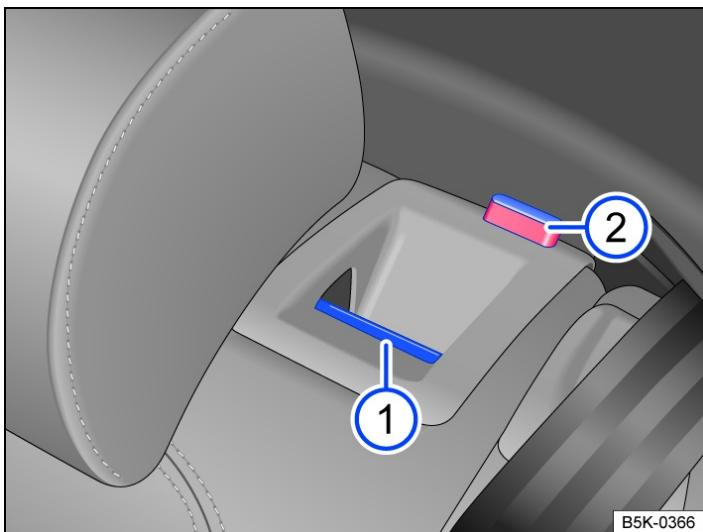

Fig. 1 In the rear seat backrest: release button.
- Pull the release button → Fig. 1 1 forwards and fold the rear seat backrest forwards at the same time.
The respective section of the rear seat backrest is unlocked when you can see the red marking → Fig. 1 2.
- The red marking on the release button must no longer be visible → Fig. 1 2.